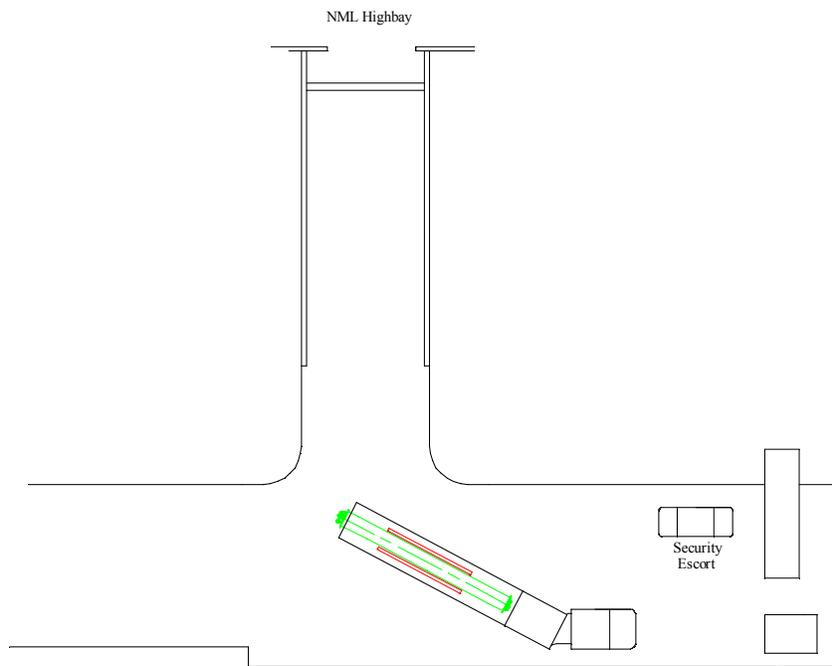

Figure 4. Diagram for backing at NML.
- Raise tail flap and carefully back into NML highbay as shown in Figure 4